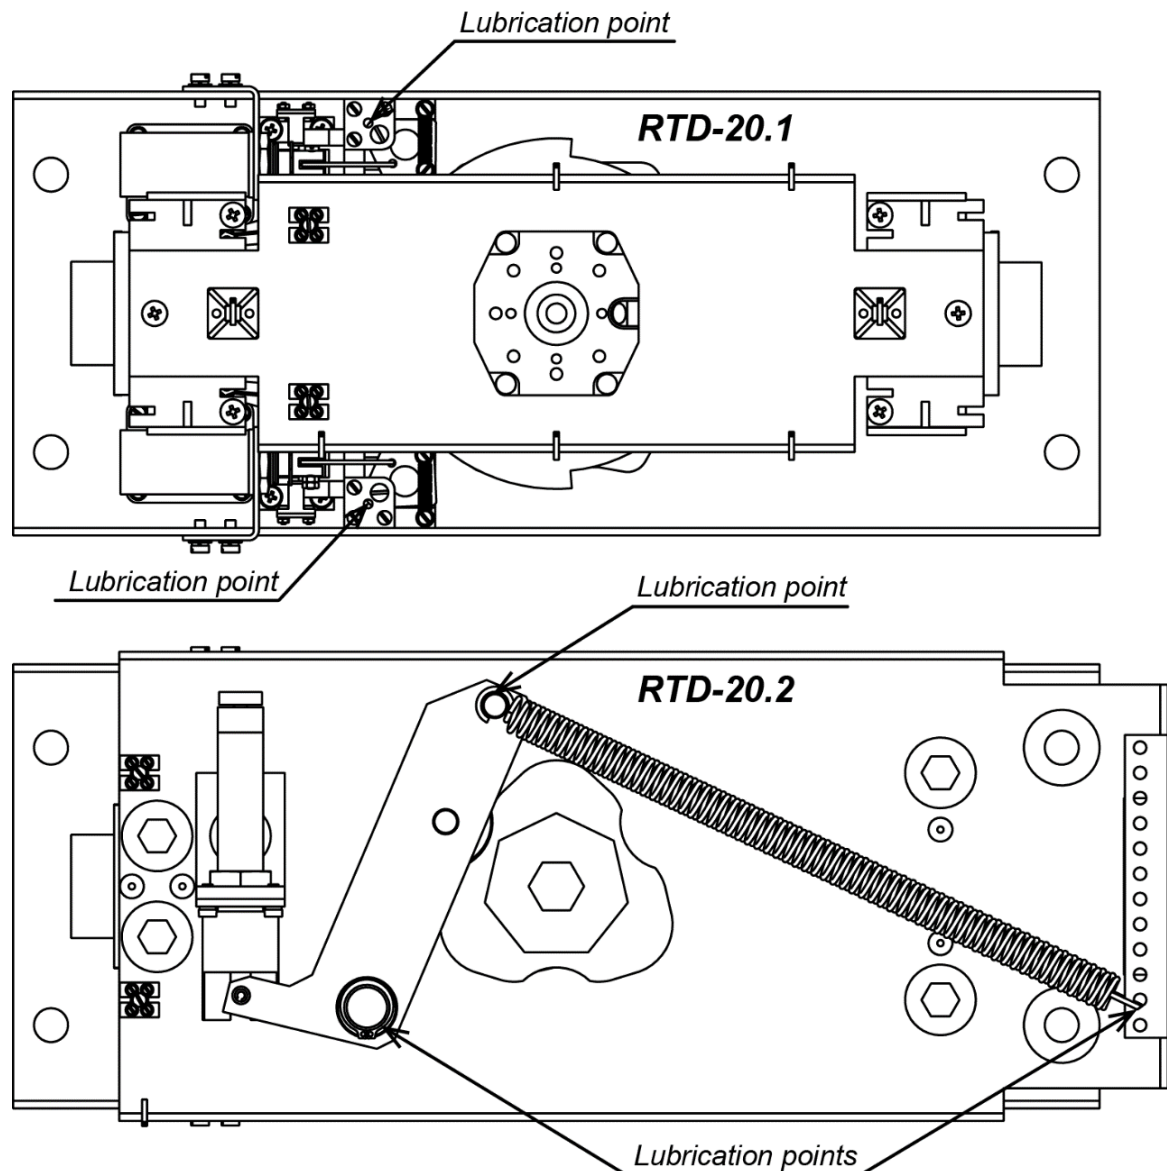

Figure 26. Operative device installed in the top channel, with the indication of lubrication points; the view from above
2. Take off the cover (10) from the top channel (9) (see Sect. 6).
6. Lubricate with machine oil type I-20 the parts of the operating mechanism in accordance with Fig. 26 (it is allowed to use aerosol silicone lubricants for low temperatures).
10. For the maintenance of the bottom rotation unit (3) for each turnstile OD dismantle the rotor: